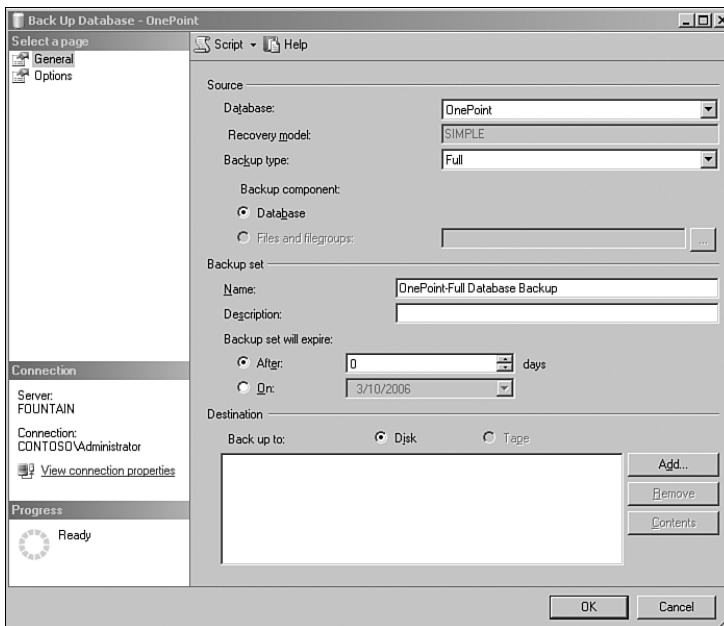

FIGURE 12.10 The SQL Server Management Studio Manager backup screen.
1. In SQL Server Management Studio, navigate to Microsoft SQL Servers \ SQL Server Group \ Local \ Databases \ OnePoint. Right-click on the OnePoint database, select Tasks, and then choose Backup, which brings up the Back Up Database General page shown in Figure 12.10.